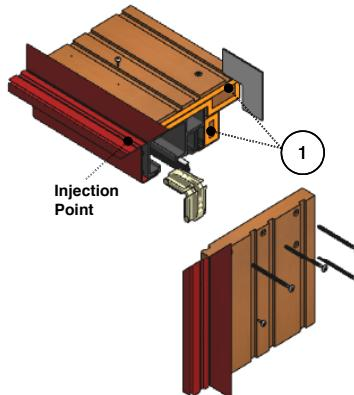

Figure 1
- Apply continuous 5mm bead of wood/metal joint sealant on the head. (Figure 1)